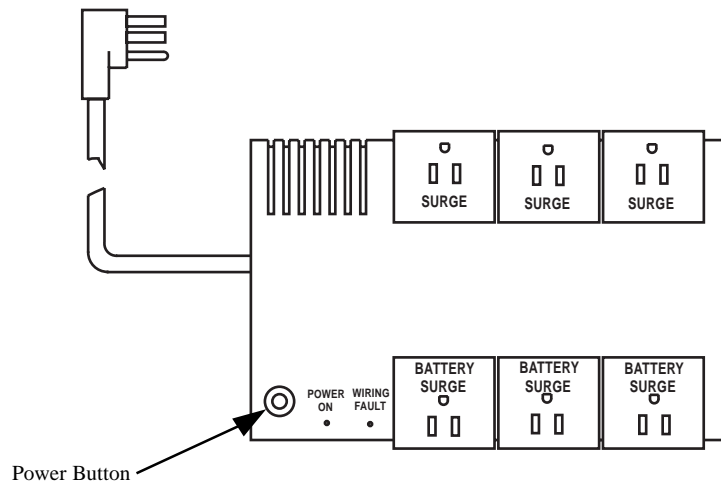

Figure 2-1
UPS .....	See Figure 2-1
2. Unplug the CC from the UPS (see figure 2-1).
- Press the red button (figure 2-1) at the front left of the UPS. The UPS will beep once and a green LED will light to indicate it is on.